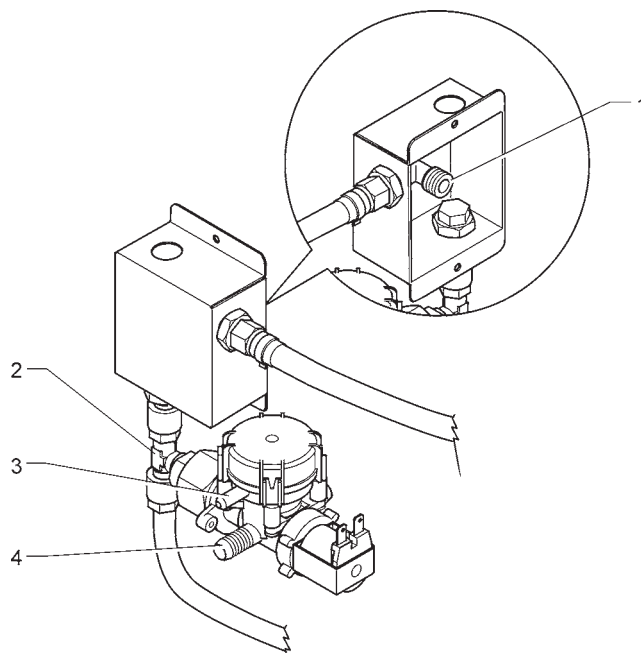

Fig. 13
Use a hose capable of withstanding the water mains pressure and suitable for use with foodstuff (min. inside diameter of 6 mm) to connect the water supply to the fitting (1/4" gas) of the water inlet solenoid valve (see Fig. 13).
The water inlet solenoid valve (see Fig. 13) is equipped with an overflow device which mechanically stops the water inlet if there is a malfunction in the solenoid valve or in the boiler water level control device.
- loosen the nut which secures the solenoid valve supply hose to relieve the water mains residual pressure and then tighten again (see Fig. 13);